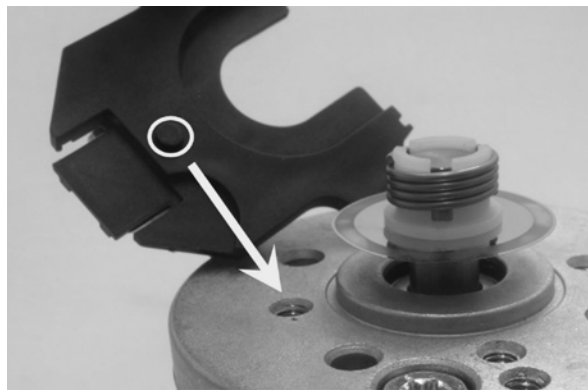

Figure 7
**Note:** Prior to installing the Base Plate, be aware of the small alignment post on its underside. It fits into one of the holes in the motor end plate to assist in aligning the Base Plate for mounting (see the arrow in Figure 7).